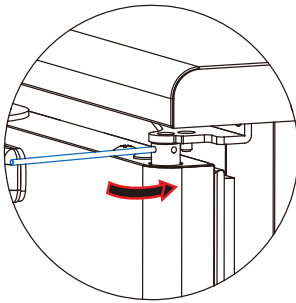

Fig 9-23
Refer to figure 9-23.
4. Take the steel stick and slowly loosen it toward the direction of the arrow. If tension is completely released before the stick touches the body, remove the stick from the shaft and go to the next step. (Fig 9-23)